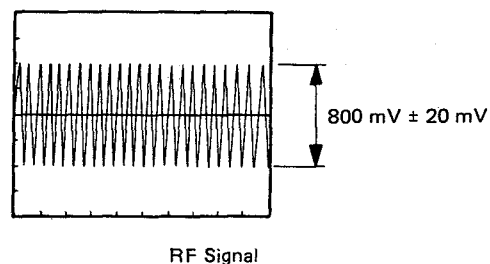

Fig. 26
3. Adjust R286 on the Servo assembly to obtain an RF signal amplitude of $800\text{ mV} \pm 20\text{ mV}$. (Fig. 26.)